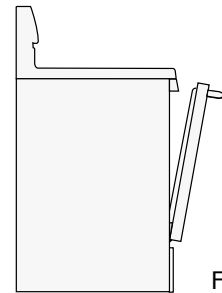

Fig. 3
7. **Keep the oven door open** at the broil stop position when broiling (See Fig. 3).